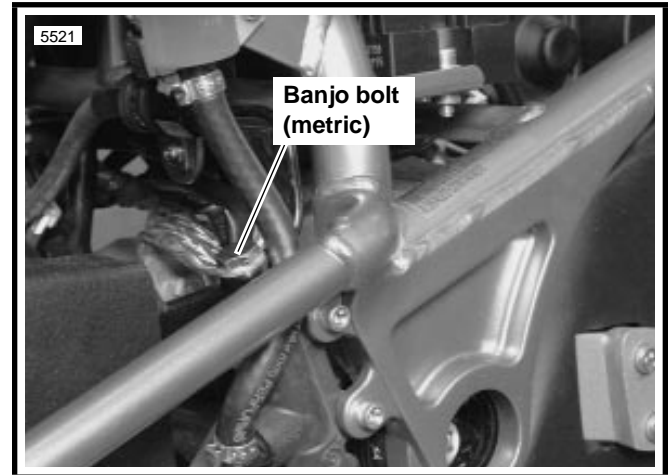

Figure 2-28. Rear Master Cylinder Banjo Bolt
3. See Figure 2-28. Remove banjo bolt (metric) and two gaskets to detach brake line from rear master cylinder. Discard gaskets.
5. See Figure 2-28. Position **new** gaskets on each side of master cylinder banjo fitting. Insert banjo bolt (metric) through gaskets and banjo fitting. Thread bolt into master cylinder and tighten to 10-12 ft-lbs (13.6-16.2 Nm).